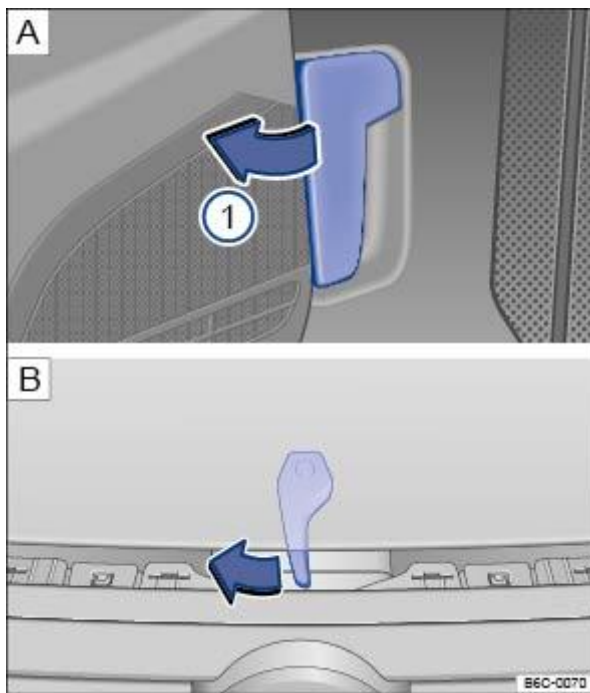

Fig. 182 In the footwell on the driver side: bonnet release lever. Above the radiator grille: bonnet opening lever.
ⓘ Open the driver door and pull the release lever in the direction of the arrow ⇒ Fig. 182 . ⓘ①. The bonnet is released from the lock carrier catch by spring force ⇒ ⚠.
☐ Lift the bonnet slightly and at the same time press the opening lever in the direction of the arrow ⇒ Fig. 182 . ☐ in order to fully open the bonnet.